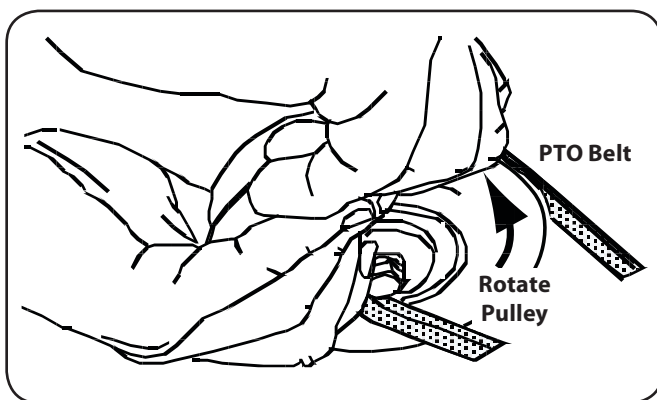

Figure 7-8
10. Place the belt into the engine pulley. See Fig. 7-8.